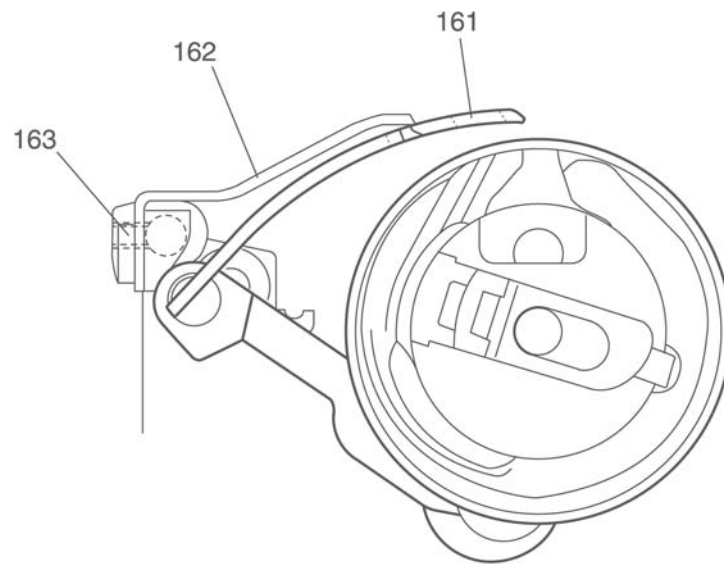

Fig. 47
- Release the front and rear screw 163 slightly (Fig. 47).